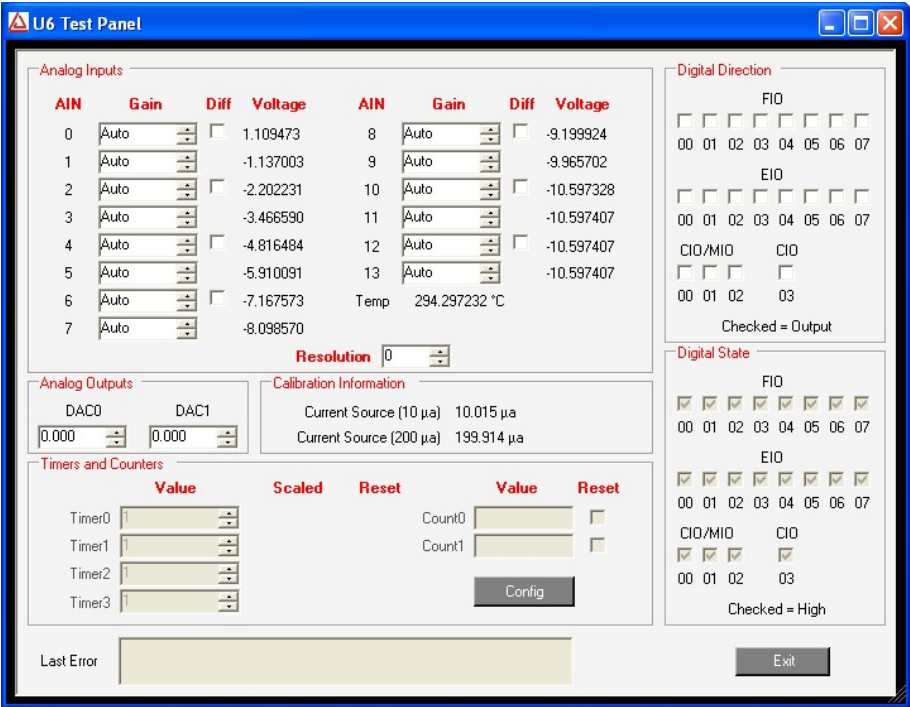

Figure 1-3. LJControlPanel U6 Test Window
- Test: Opens the window shown in Figure 1-3.
Figure 1-3 shows the U6 test window. This window continuously (once per second) writes to and reads from the selected LabJack.